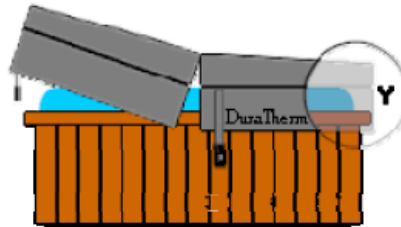
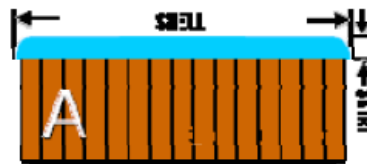

Figure 4. Spa cover fits cabinet.
Figure 5. Spa shell overhangs cabinet.
2. Determine the skirt length so it is long enough to cover the wooden edge, as shown in the Figure 4 above. To do this, measure from the top of the spa shell to the bottom of the wooden edge rim, as shown in Skirt Overhang in Figure 2.
Many spas are made as shown in Figure 5 below. The acrylic shell lip slightly overhangs the spa cabinet.
2. Then, determine the skirt length so it is long enough to cover the lip of the shell, as shown in the Figure 4 above. To do this, measure from the top of the spa shell to the bottom of the spa shell, as shown in Figure 5 above. A 3" cover skirt length is normally ideal; however, you can specify any length you require.